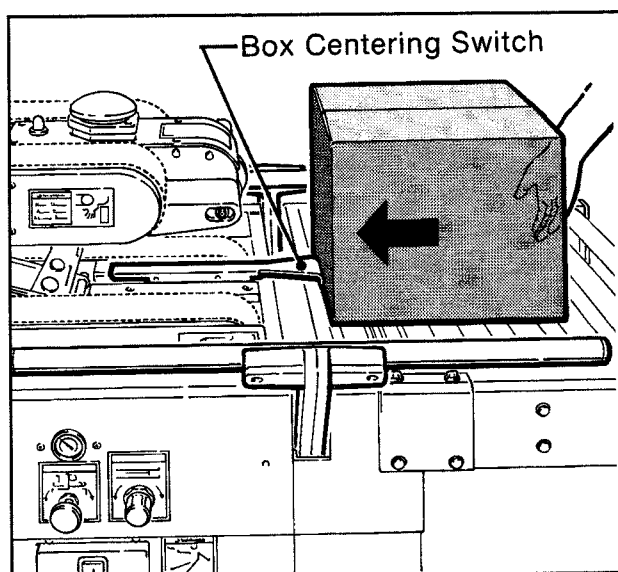

Figure 2-18 – Box Centering Switch
1. A box centering switch in the center of the infeed roller conveyor actuates movement of the centering guides. When the operator pushes a box onto the infeed conveyor, as shown in Figure 2-18, the lever is depressed causing the air cylinder powered centering guides to move inward, thereby centering the box.